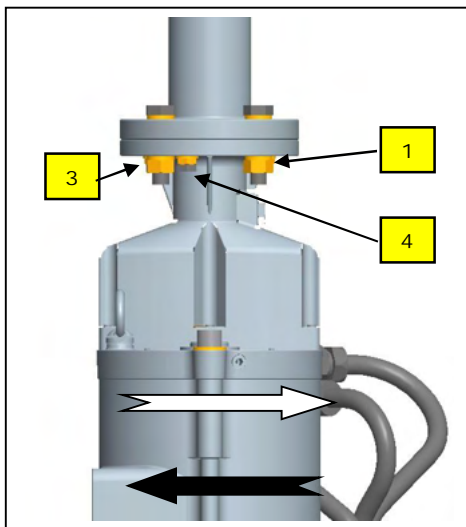

Fig. 31
- Move the vertical axis toward (white arrow – Fig.31) and unscrew the screws 1-2-4 and fix the M12 screw until the end of the working range
- Move the vertical axis back (black arrow – Fig.31) and unscrew the special screws 4-2-3 and fix the M12 screw until the end of the working range.